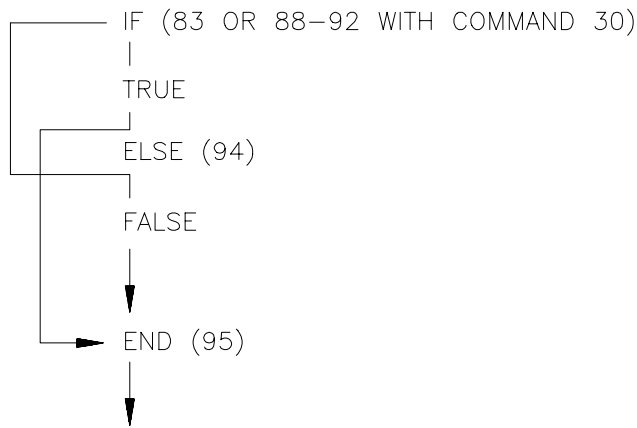

FIGURE 3.8-1. If Then/Else Execution Sequence
Program Control Instructions can be used for If then/else comparisons. When Command 30 (Then do) is used with Instructions 83 or 88-92, the If Instruction is followed immediately by instructions to execute if the comparison is true. EITHER FALSE The Else Instruction (94) is optional and is followed by the instructions to execute if the comparison is false. The End Instruction (95) ends the If then/else comparison and marks the beginning of the instructions that are executed regardless of the outcome of the comparison (see Figure 3.8-1).